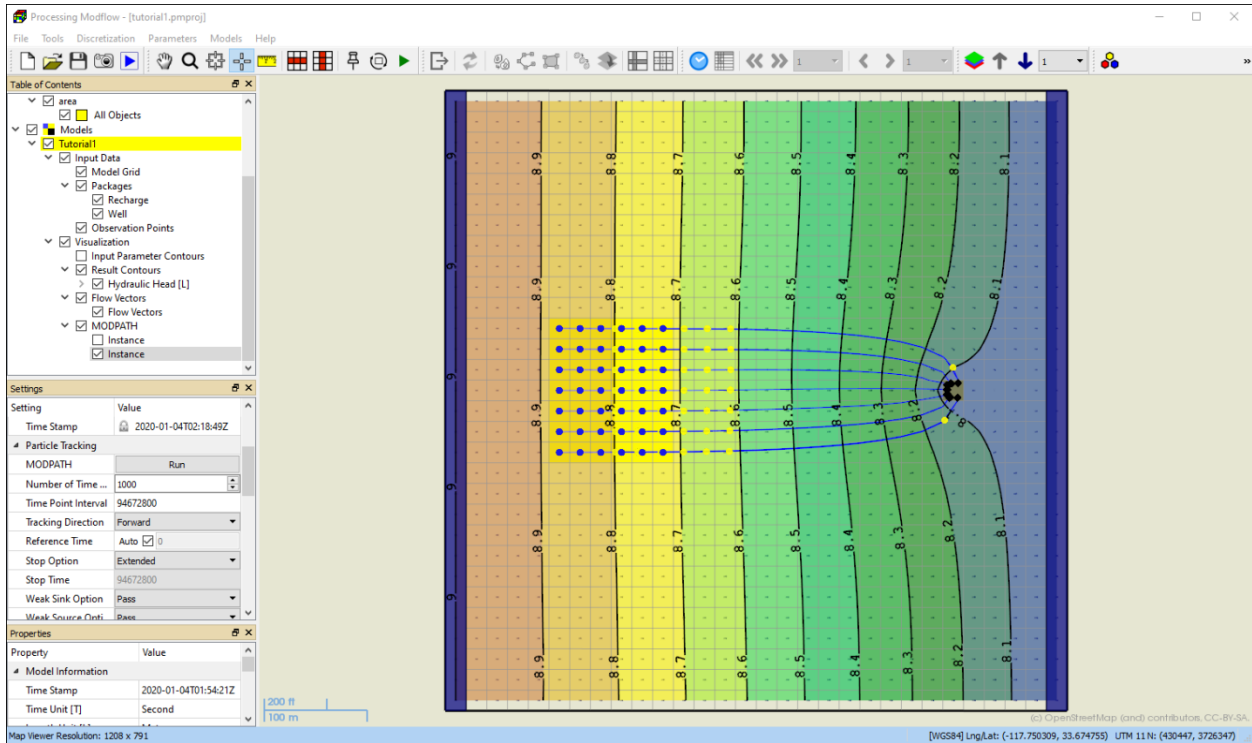
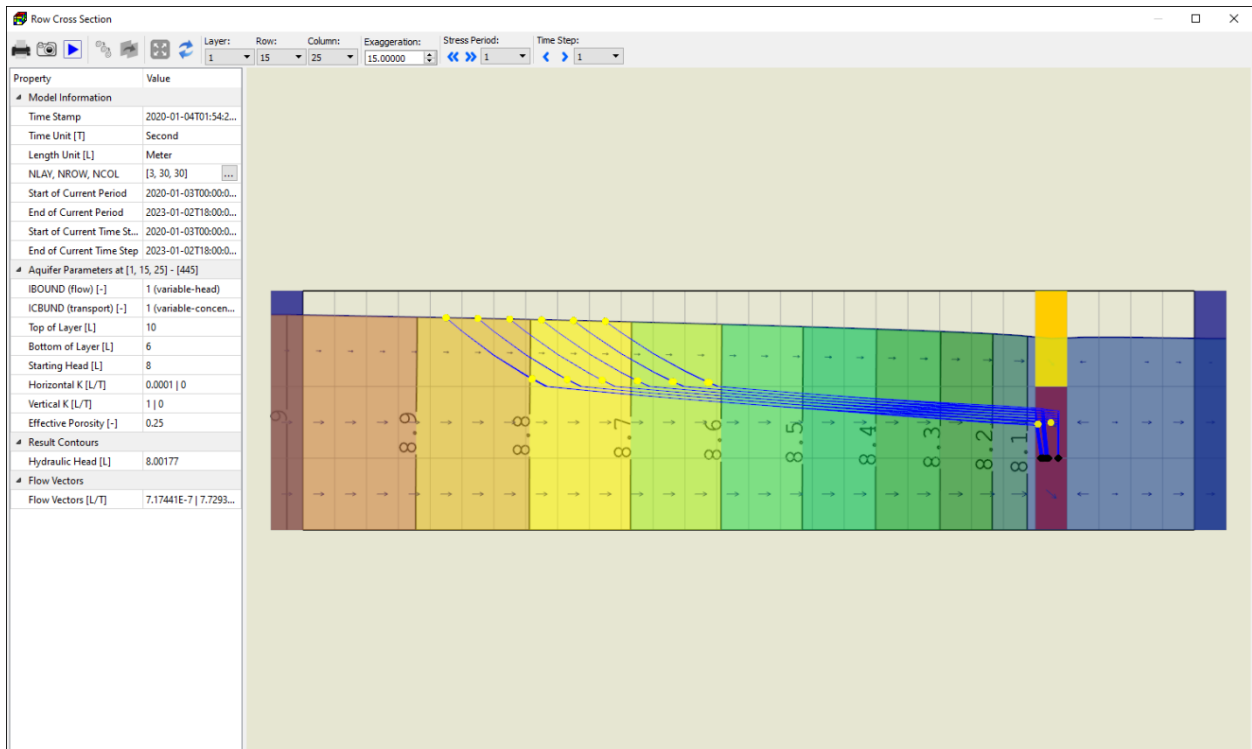

Figure 20. Projection of pathlines on the Map Viewer (forward tracking)
Figure 21. Projection of pathlines on the Row Cross Section Window (forward tracking)
5. As soon as the calculation is finished, PM will display the (projection of) pathlines on the Map Viewer (Figure 20). By clicking on  button on the toolbar, you can display the (projection of) pathlines on the Row Cross Section window (Figure 21). The figures show that the contaminates originated from contaminated area will all end up at the well. Note that MODPATH is an advective transport model and does not include the effects of dispersion and/or chemical reaction.